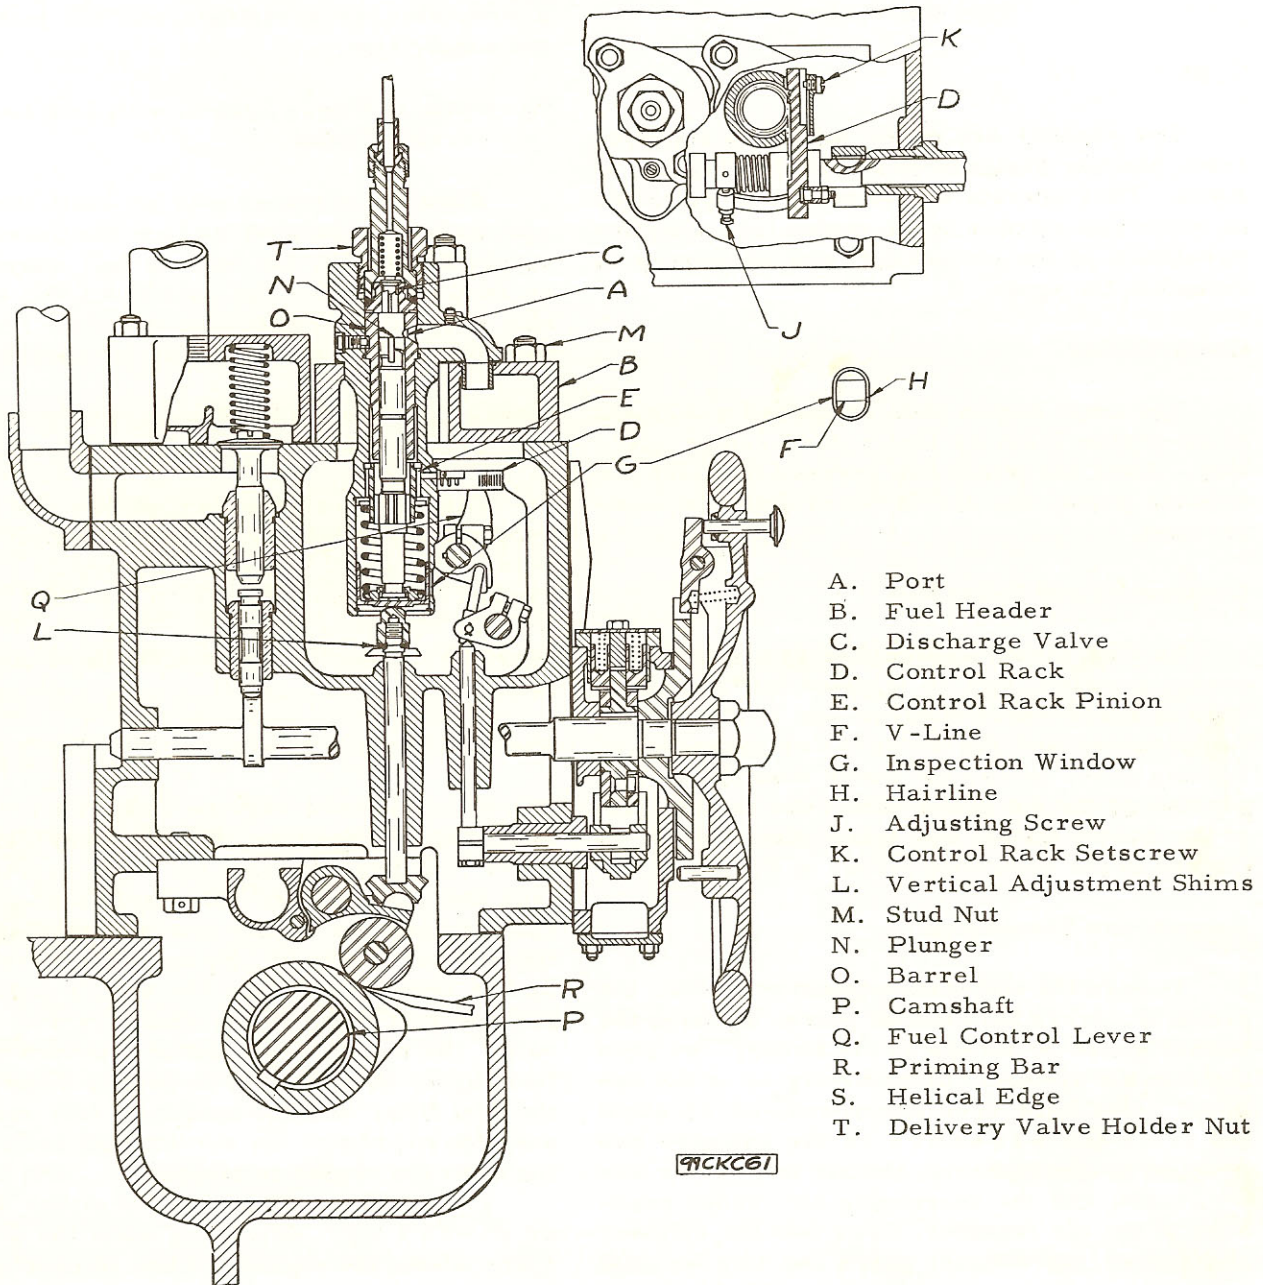
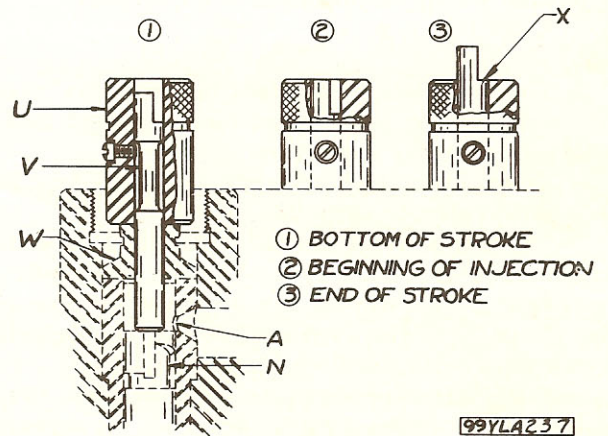

Fig. 1. Injection Pump - Variable Ending "VE" Plunger
Fig. 5. Injection Pump Setting Gage "VE" Injection Pumps
Variable ending univalve injection pumps are used on the first engine as listed below and thereafter. Refer to Fig. 1 and 2.
The delivery valve holder nut is removed and the injection tubing moved aside. The discharge valve and spring are also removed. Do not remove the valve cage packing. The setting gage is placed on the injection pump discharge valve cage as shown in Fig. 5.
The pump plunger height must be adjusted when an injection pump is changed on a cylinder. Proper adjustment is accomplished by adding or removing shims (L) in Fig. 1, so that the land (X), Fig. 5, is flush with the end of the gage body when the pump plunger is at the end of its stroke or at the high cam position.
NOTE: The following paragraph applies only to engines equipped with injection pumps provided with an inspection window. This design was superseded by the setting gage described above. See Fig. 1.
The pump plunger height must be adjusted when an injection pump is changed on a cylinder. Proper adjustment is made by adding or removing shims (L) shown in Fig. 1.